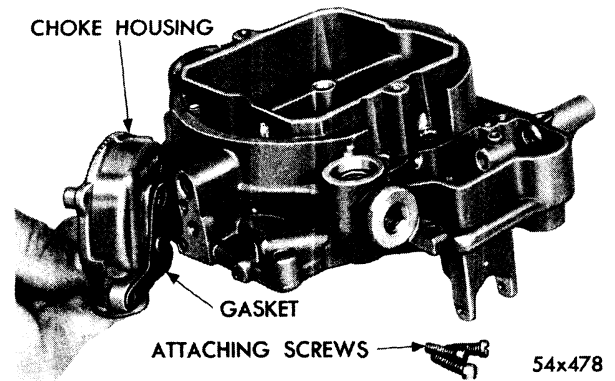

Fig. 21—Removing or Installing Choke Housing
- (8) Separate choke piston from link. Remove the three screws that hold the choke housing to the air horn.
- (9) Work choke housing directly out and away from air horn, as shown in Figure 21. Discard gasket.